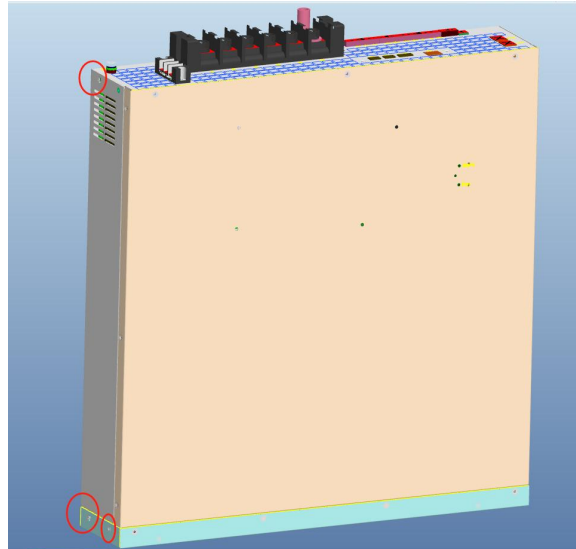

Figure 3 Remove the countersunk head screws
2、 Remove the countersunk head screws circled in red on the left and right sides of the module, detailed please the Figure 3;